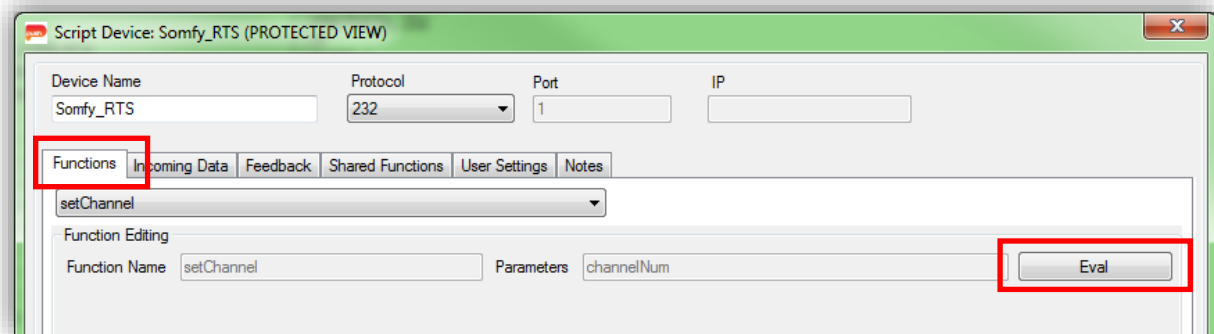

Figure 10 - Highlighting script device Functions tab and Eval button
3. Once you have selected the setChannel function from the dropdown list, press the 'Eval' button (see Figure 10)